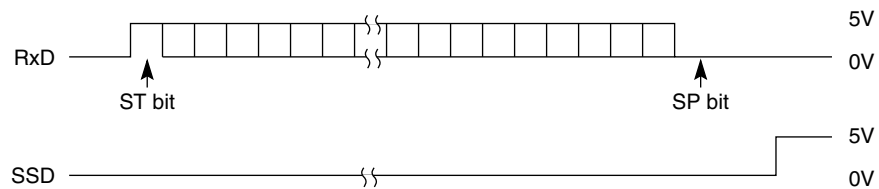

Figure B-3-4
- Yes Is the Rx D of Q3 as specified in Figure B-3-4?
② In receiving by serial interface, printing data is omitted or printing operation is not performed.
• Are RxD and SSD of Q3 as specified in Figure B-3-4?